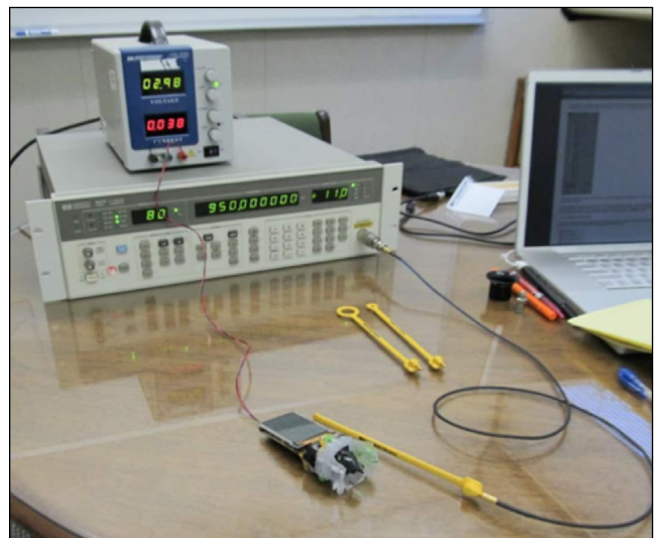

Figure 5: Using an RF generator and H-field probe to determine areas of sensitivity.
**RF Generator** — It's very common that only certain frequency bands are susceptible and sometimes the fixed frequency handheld radios are not effective. In that case, I use an adjustable RF generator with attached large size H-field probe and probe all around at known failing frequencies. It also helps to probe the internal cables and PC board to determine areas of sensitivity. For smaller products, as in Figure 5, try using the smaller H-field probes for best physical resolution.